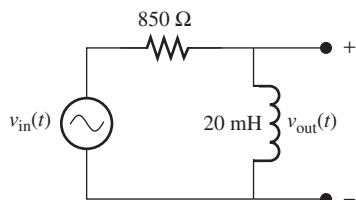

FIGURE P7.49 Circuit for Problem 7.49.
- 7.49 (A) Use PSpice to sketch the Bode plot of the circuit shown in Figure P7.49, given the voltage source $v(t) = 5 \sin(600\pi t + 45^\circ) + 10 \cos(100\pi t)$.